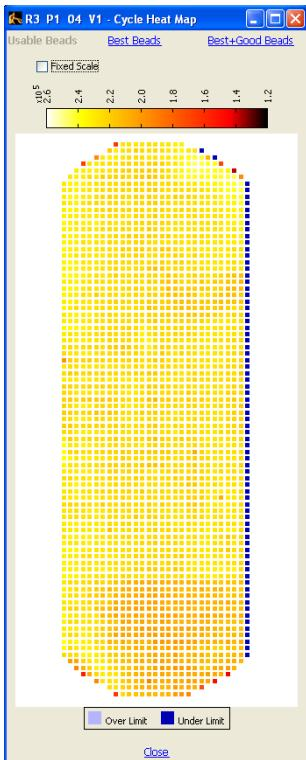

Figure 68 Click the heat map link to view the heat map for that cycle.
- Click the heat map link to view the heat map for that cycle (see Figure 68).